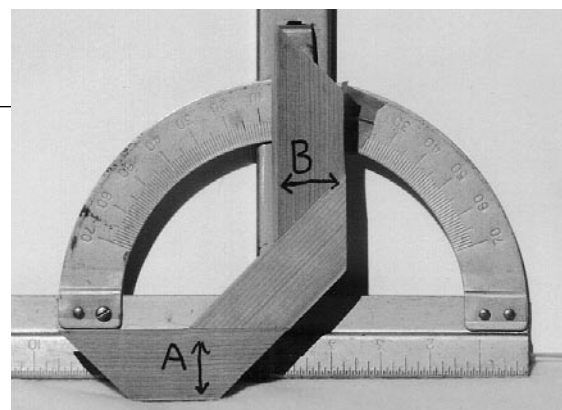

Figure 5: To verify your setup, cut and assemble three segment pieces and test for square.
- The 45-degree-cut angles should be as precise and uniform as possible. Flipping the strip stock from one cut to the next saves material and may compensate for errors if the segment pieces are kept in the same sequence in assembling the ring. But it is a lot easier to get the saw setup right than keeping track of piece sequencing. Furthermore, as discussed in Part II, for many species with strong grain lines there is good reason not to accept this limitation. Verify your setup by cutting and assembling three segment pieces (Figure 5). The two faces A and B should be at 90 degrees—easily checked with your square. You still can be done in by any warp in the stock which causes changing contact with the saw fence as it is flipped between cuts. Careful saw setup and use of fairly short fences (12 inches or less) should help minimize such problems.
the dynamic forces involved the sharper the tool, the easier the tool passes through the wood fibers.) The fourth aid to prevent catches is to make sure the cutting edge of your gouge is directly supported by the tool rest. If your cutting edge gets way out on the wing or corner of the gouge there is no support by the tool rest. In Figure 5 the arrows represent the force of the wood as it spins by the tool. When the end grain of the bowl comes around to grab your